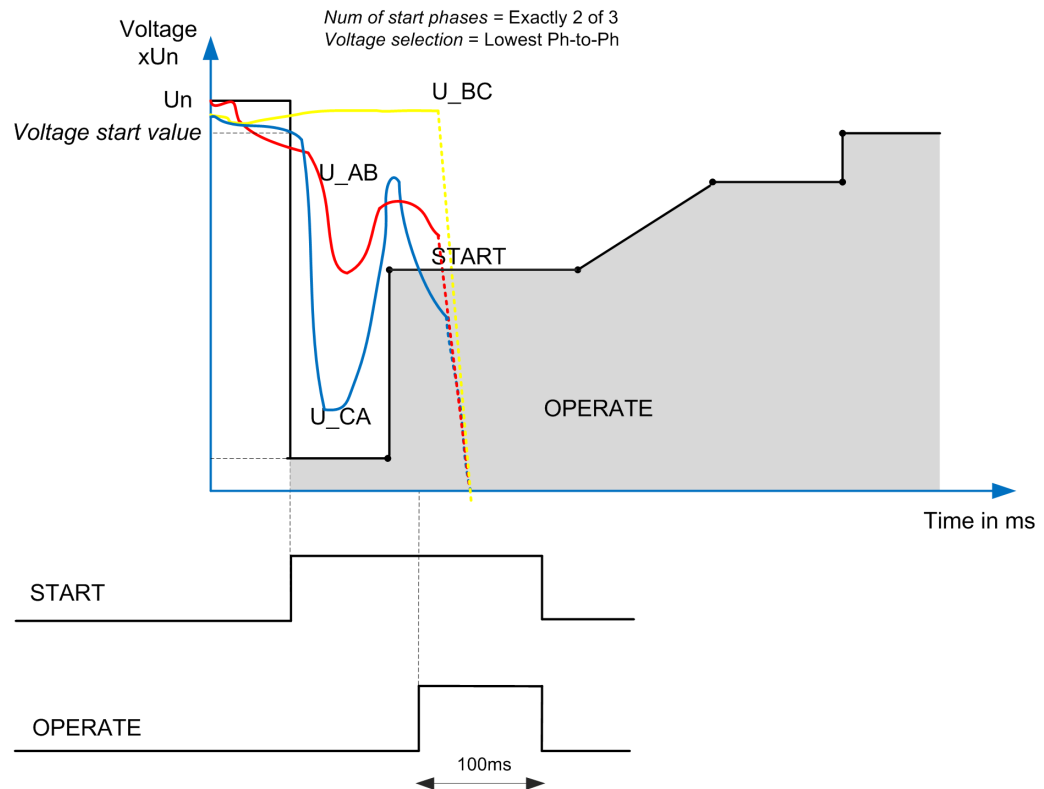

Figure 361: Typical example of operation of LVRTPTUV function
*Figure 361* describes an example of operation of LVRTPTUV protection function set to operate with *Num of start phases* set to “Exactly 2 of 3” and *Voltage selection* as “Lowest Ph-to-Ph” voltage.